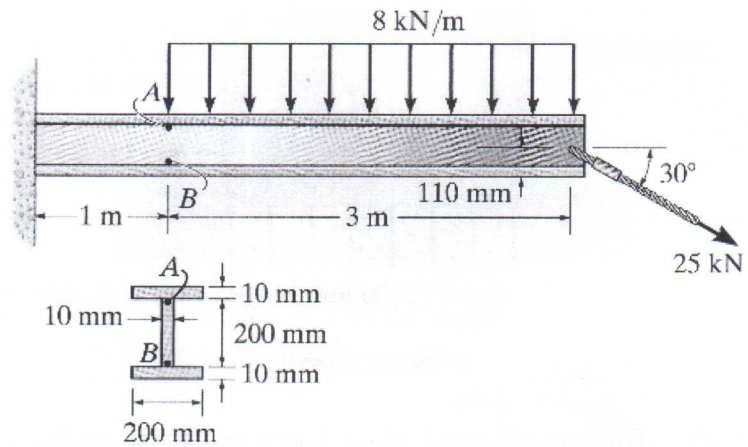

Figure 14.
(14) The wide-flange cantilever shown in Figure 14 is subjected to loading shown. Determine the principal stress at points *A* and *B*. these points are located at the top and bottom of the web, respectively.